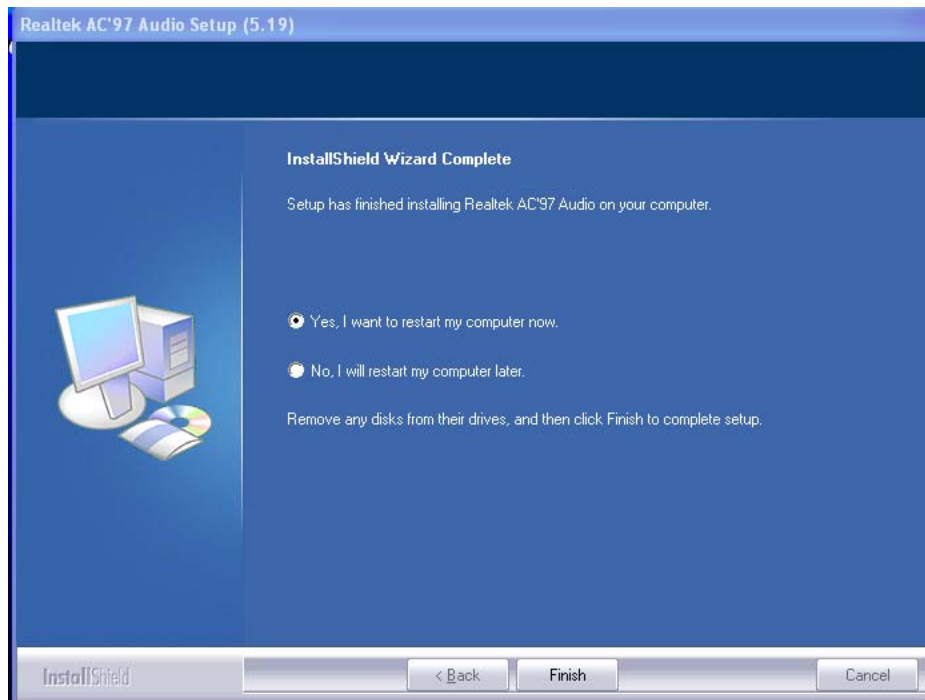

Figure 6-18: AC'97 Driver Installation Complete
Step 10: When the driver is installed, the driver installation finish screen in **Figure 6-18** appears.